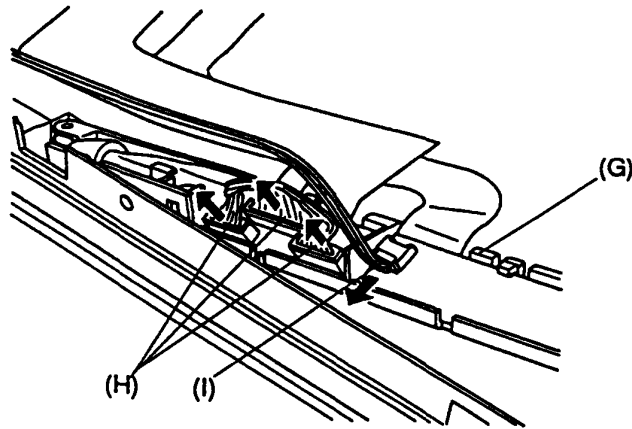

Figure 4-16 Disconnecting the display cables and the display disable switch cable
6. Gently lift the LED holder (G) up and out. Then carefully disconnect the three display cables (H) and the display disable switch cable (I) (Figure 4-16).
3. Place the LED holder in the top cover, leaving the holder slightly elevated so you can connect the three display cables and the display disable switch cable (Figure 4-16).